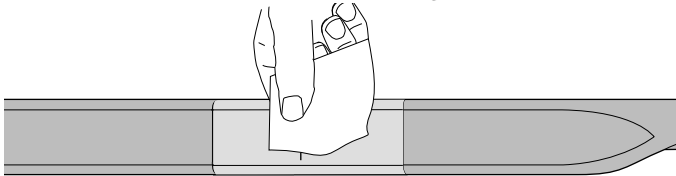

Figure 4
4.4 Using an alcohol wipe, remove as much dirt and sandpaper residue as possible from the damaged area and inside the marks made in Step 4.2 (Figure 4).